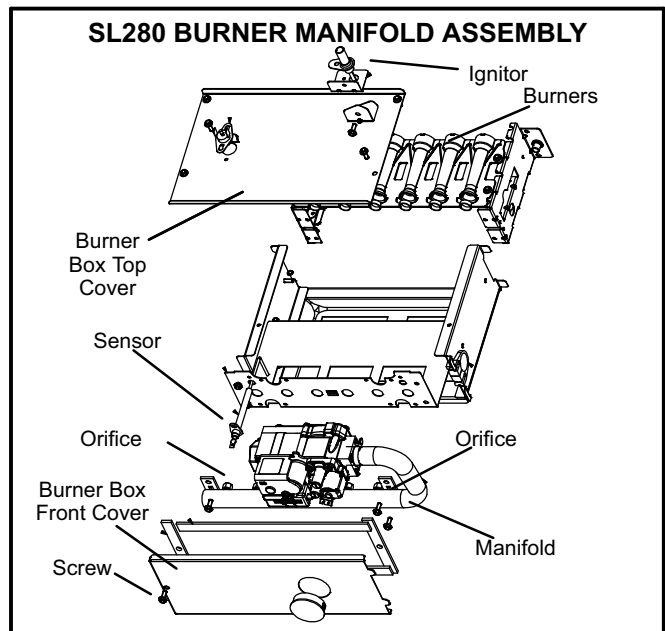

FIGURE 1
- 4 - Remove the screw that secures the burner box front cover and remove front cover. See figure 1.
- 5 - Remove the four manifold securing screws. Remove the manifold/gas valve assembly. Figure 1 shows burner manifold assembly.